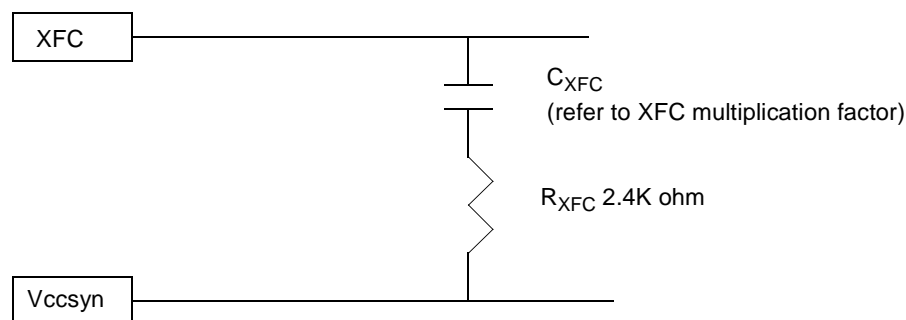

Figure 11. External PLL filter
On systems where excessive PLL jitter causes AC timing violations, a 2.4Kohm resistor (R_{XFC}) can be added in series with the specified (C_{XFC}) capacitor. As discussed in Section 3.1, "PLL Transfer Function," this resistor/capacitor (RC) filter acts as a noise rejection circuit, thus allowing for fast clock recovery for a wider frequency bandwidth and less susceptibility to phase noise or jitter. For the best result, the XFC capacitor should be placed as close as possible to the XFC pin on the MPC8260. The 2.4Kohm R_{XFC} value stays constant for all multiplication factors. For selecting C_{XFC} capacitor values, refer to *MPC8260 PowerQUICC II Family Reference Manual*. Figure 11 shows the physical connection of the XFC RC filter circuit.